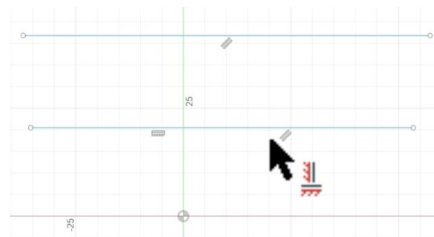

Figure 1.4
- **Horizontal/Vertical:** Forces a line to align horizontally or vertically, depending on its angle. **Important Note:** If the line's angle is greater than 45° , the constraint will make it vertical. If the line's angle is less than 45° , it will make it horizontal. (see Figure 1.4)